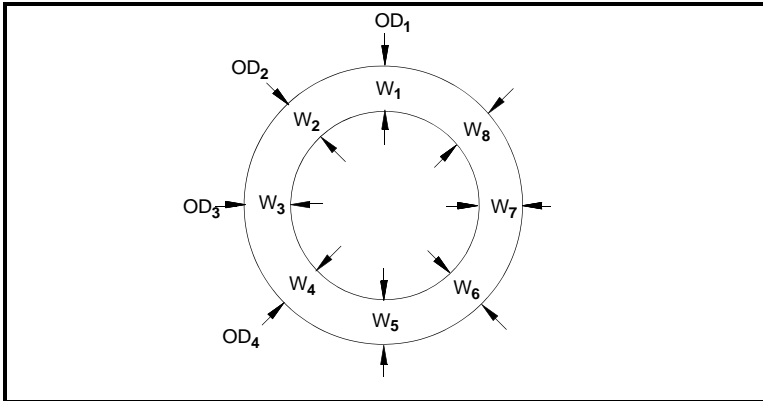

Figure 3-6: Measuring the OD and Pipe Wall Thickness
- Now measure the OD and the wall thickness at eight points along the pipe circumference at 45° intervals (shown in Figure 3-6 below), three times per point, and record the mean values.
2. To determine the PT878GC correction factor, calculate the mean inside pipe diameter (ID) and the pipe ID at the transducer locations. Then divide the square of the mean ID by the square of the ID at the transducer location, as shown in the equations below, where OD_X is the outside diameter at a given point, and W_X is the wall thickness at a given point (as shown in Figure 3-6 on the previous page).